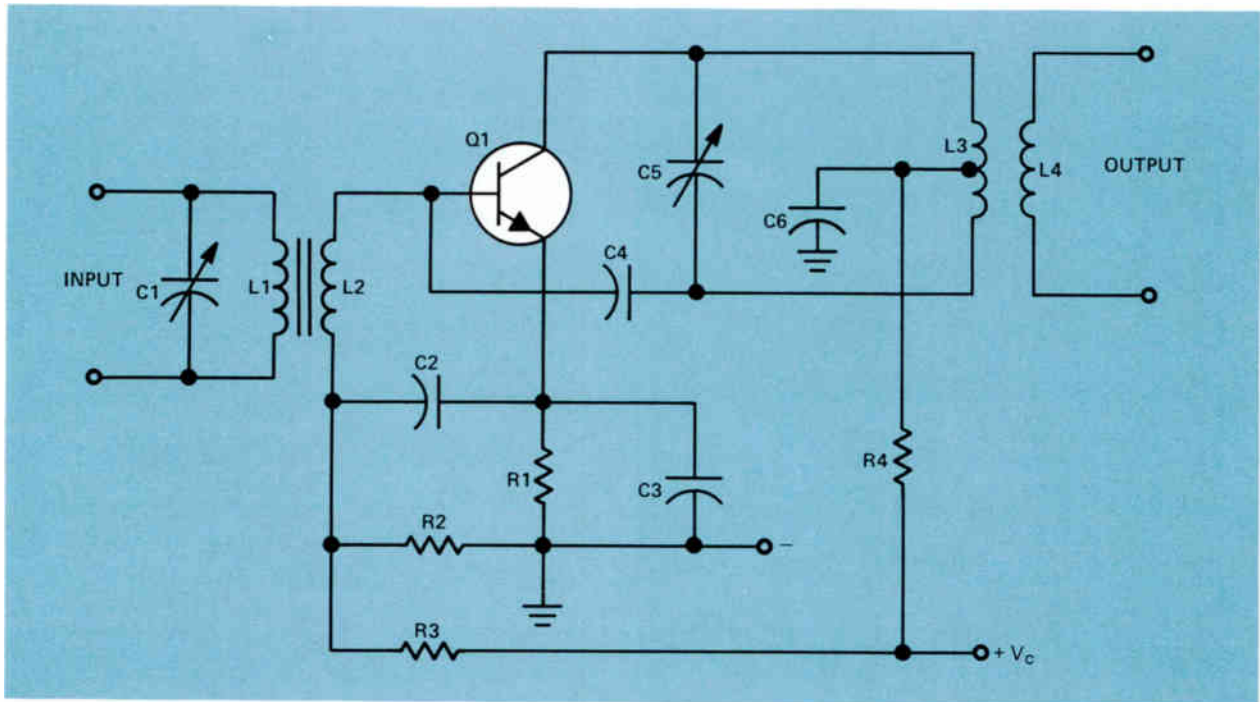

Figure 23. A transistor rf amplifier.
A typical rf amplifier that might be found in a radio receiver is shown in Fig.23. The circuit uses an npn transistor in a common-emitter circuit.
- 21 What is the name given to C4 in the circuit shown in Fig.23?
- 22 Why is C4 necessary in the circuit shown in Fig.23?